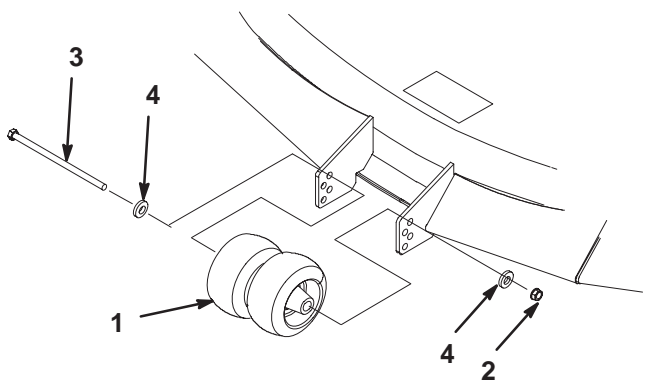

Figure 17
1. After adjusting height-of-cut, remove bolt, washers and nut (Fig. 17).
2. Select a hole position so the gage wheels are a minimum of 3/8 in. (9.5 mm) off the ground for the height-of-cut to be used (Fig. 17).
3. Reinstall the bolt, washers and nut (Fig. 17).